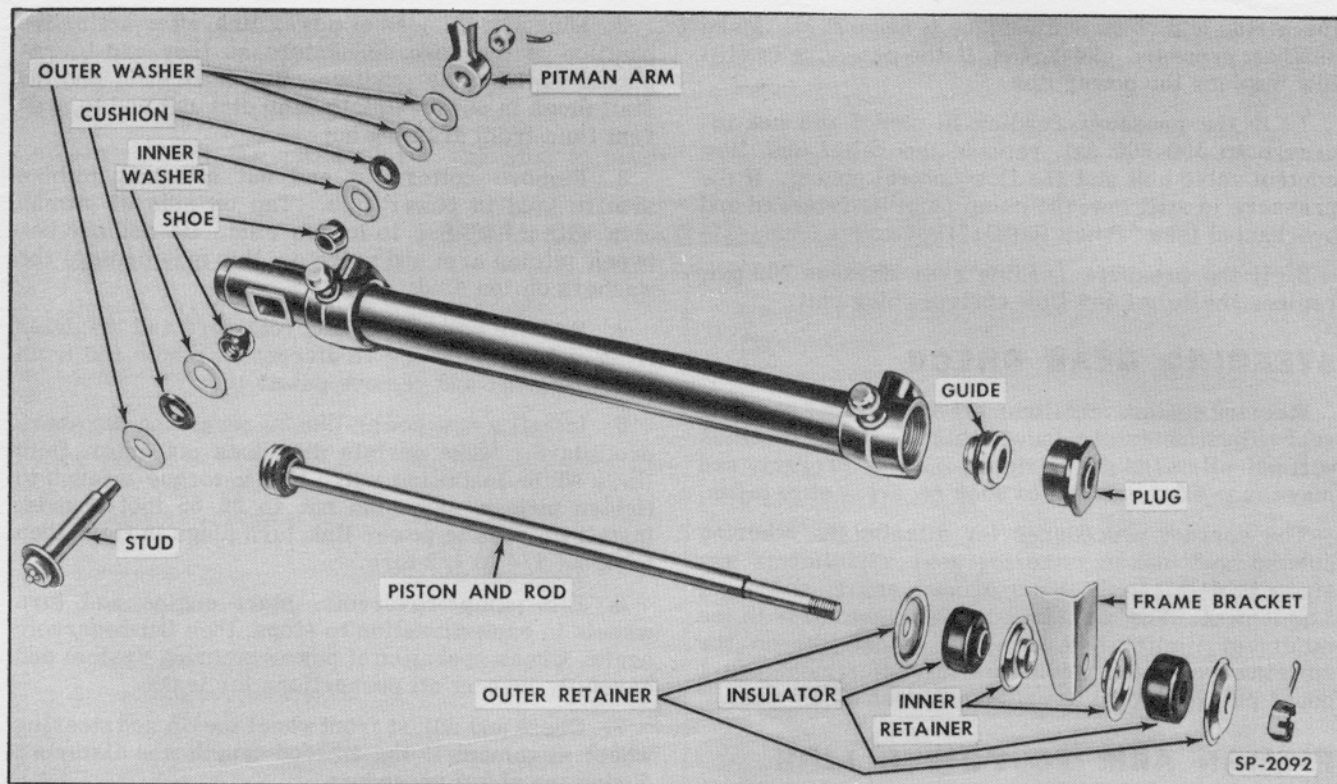

Fig. 13—Power Link—Exploded View
Parts of the power link such as the pitman arm stud, washers, cushions, shoes, the piston and rod, rod guide and seals, rod plug, or power link to frame bracket attaching parts (see Fig. 13) may be replaced when necessary.
3. Obtain a pitman arm stud kit and assemble the parts in their correct order as shown in Fig. 13.
7. Assemble piston rod to frame bracket with retainers and insulators in proper position (see Fig. 13) and tighten nut to 18-23 foot-pounds torque. Install cotter pin.